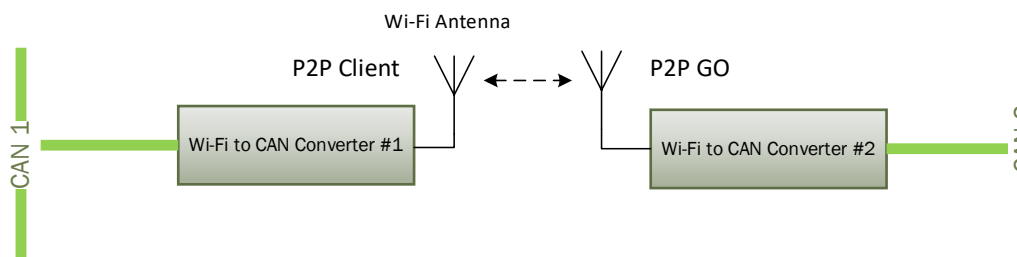

Figure 28. Wireless CAN Bridge with P2P Configuration.
Two Wi-Fi to CAN converters can be connected together using Wi-Fi Direct (P2P) connection without creating an Access Point (AP), see Figure 28.